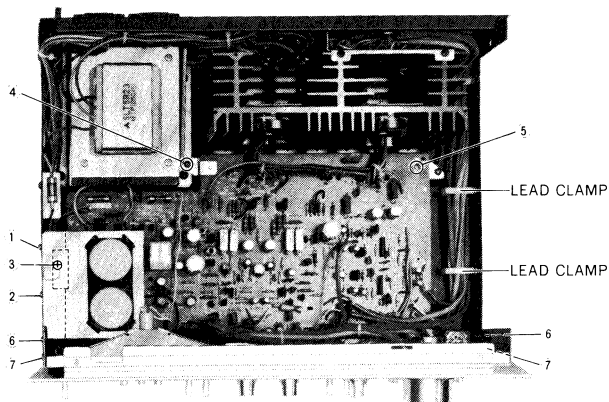

Fig. 2
2. Remove lead wire from lead clamps. (Refer to Fig. 2).
3. Remove two (2) electrolytic capacitor-bracket-mounting screws. (Refer to Fig. 2: ① and ②).
5. Remove a screw (Refer to Fig. 2: ③) and printed circuit board-metal clamp.
6. Remove two (2) printed circuit board-mounting screws. (Refer to Fig. 2: ④ and ⑤)
7. Remove four (4) panel-mounting screws. (Refer to Fig. 2: ⑥ and ⑦, left and right side.)